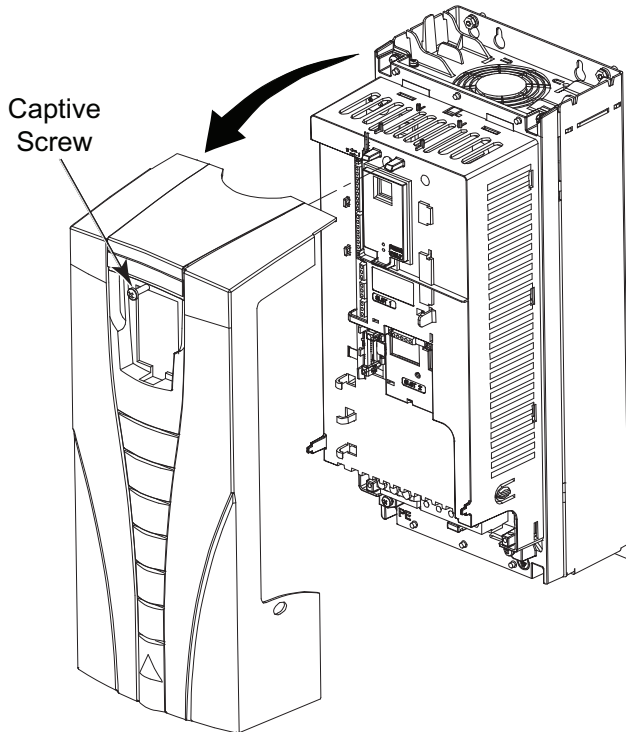

Fig. 34 — Remove ACH550 VFD Front Cover
2. Remove the drive cover (see Fig. 34).